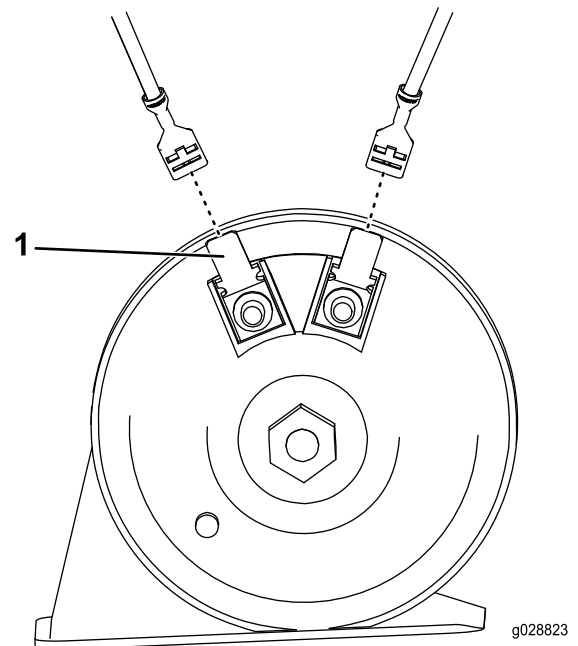

Figure 7
5. Connect the wire harness to the horn posts (Figure 7).